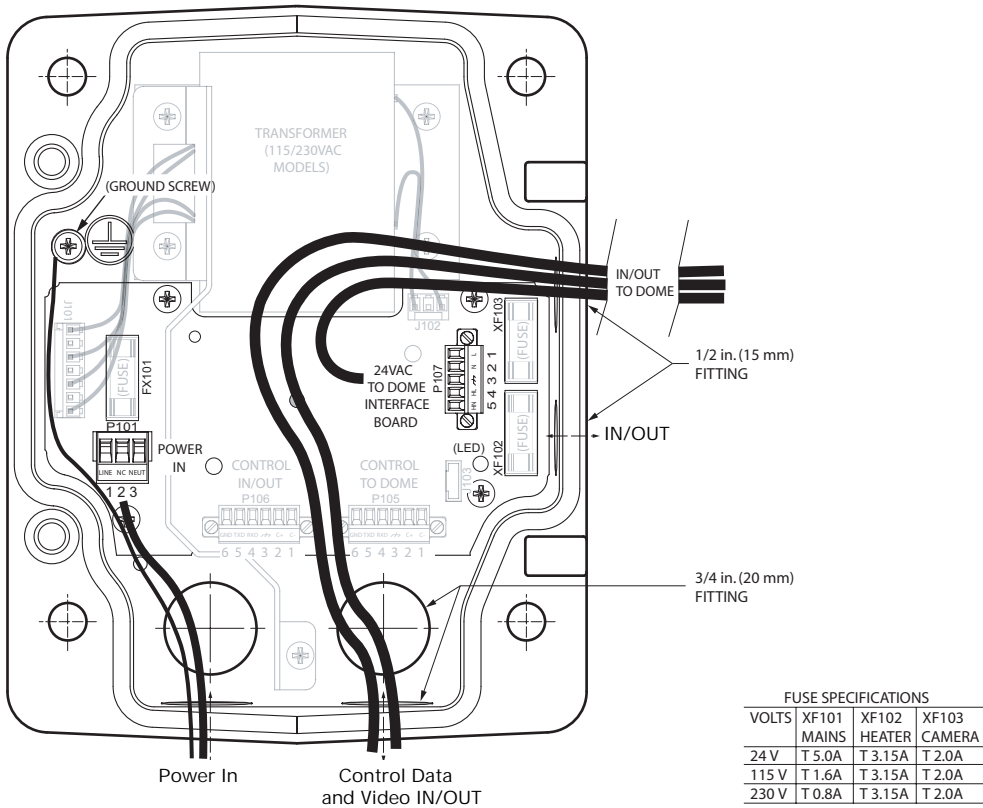

Fig. 2.6 Power Supply Box Connections for Roof or Pipe Mount
NOTICE! Use 3/4-inch NPS (20-mm) fittings for the holes on the bottom and back of the box. Use 1/2-inch NPS (15-mm) fittings for the side holes. See *Figure 2.6* on page 25.
2. Cut and trim the high voltage 115/230 VAC power and ground wires with sufficient slack to reach their connector terminal in the box, but not so long as to be pinched by or to obstruct closing the Cover Door. See *Figure 2.6* on page 25 for connector location.